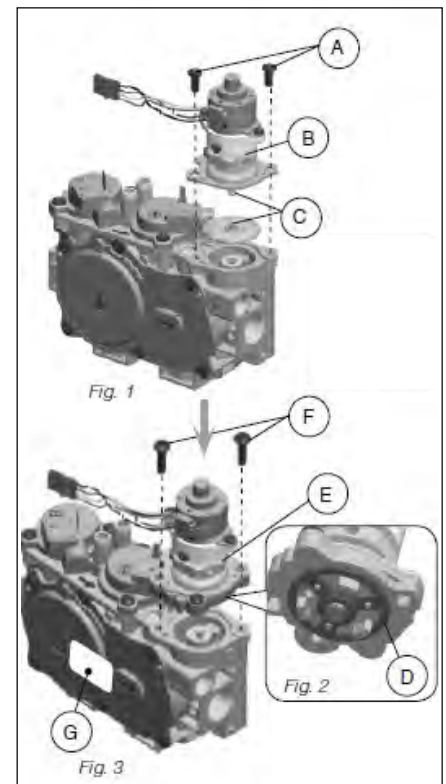

Figure 29: SIT Valve Conversion
6. Convert the SIT gas valve (figure 29):